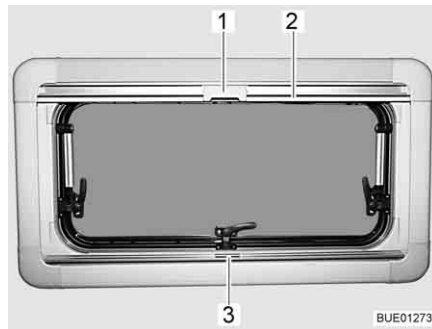

Fig. 73 Hinged window
- Grip the Roman shade using the holding bar (Fig. 73,3), pull it from the bottom to the top and then release it at the desired height. The Roman shade will stay at this height.
- Pull the insect screen down using the holding bar (Fig. 73,2), until it touches the holding bar of the Roman shade (Fig. 73,3).
- Clip the catch (Fig. 73,1) on the insect screen into the handle of the Roman shade.
- Push the catch (Fig. 73,1) on the insect screen inwards.
- Move the insect screen back slowly on the holding bar (Fig. 73,2).